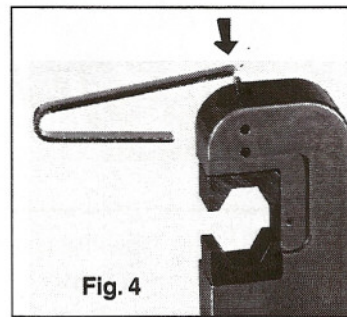

Fig. 4
1. **Remove upper die:** With crimp handle open, place the die removal tool against the end of the front die and tap with a small hammer. (Fig. 4) The die will be released from the front die holder and can now be easily removed by hand.